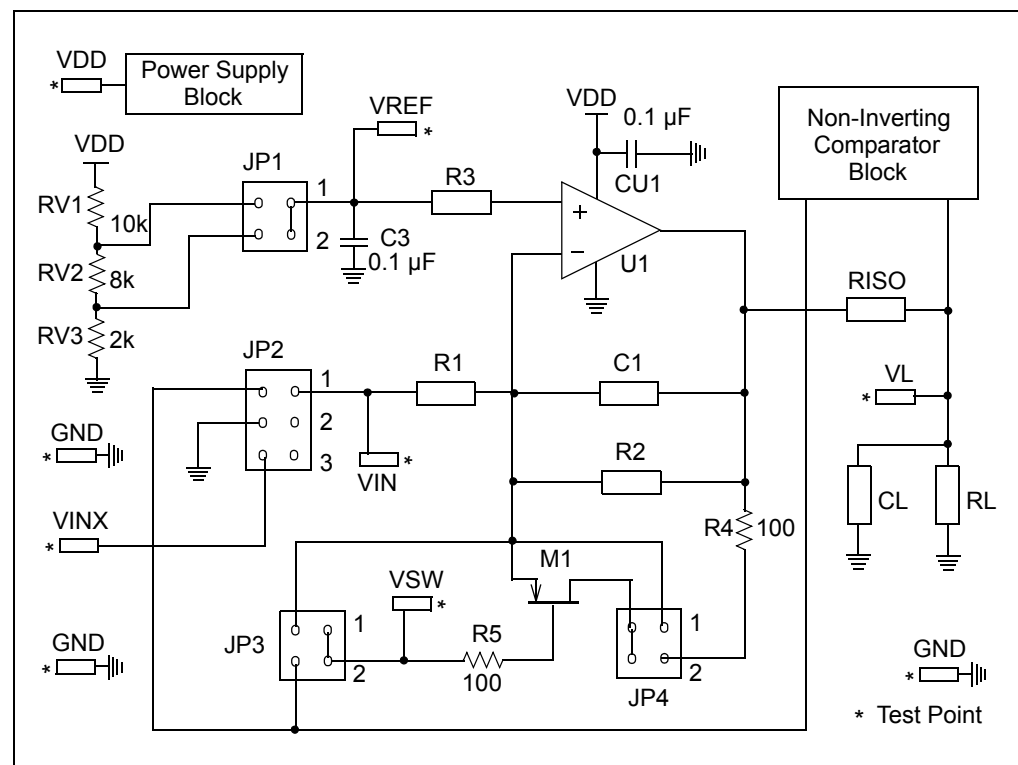

FIGURE 2-1: MCP6XXX Amplifier Evaluation Board 4 Circuit Diagram.
The MCP6XXX Amplifier Evaluation Board 4 is designed to demonstrate an inverting integrator using one op amp and supporting circuitry. This section details the conversion of the topology to the MCP6XXX Amplifier Evaluation Board 4. Figure 2-1 shows the circuit diagram for the board.
- It integrates and inverts a voltage with an integrating frequency $\omega = 1/R_1C_1$ (rad/s). Additional components control output clipping (wind-up) and initialization of the integrating capacitor (C_1). Refer to Figure 2-1.